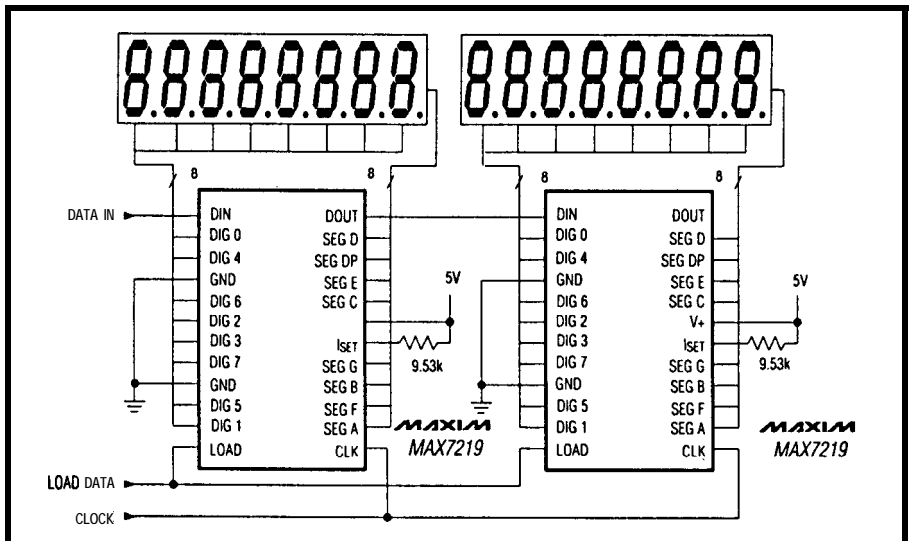

Figure 3—The MAX7219 needs just three connections to the host computer. Multiple chips may be daisy chained to handle an unlimited number of displays.
Designing with the '7219 could hardly be easier, as shown in Figure 3. Notably, the device uses a TTL-compatible three-wire [CLK, LOAD and DATA-IN (DI)] shift-registerlike interface. This feature saves CPU I/O lines and, in the case of remote